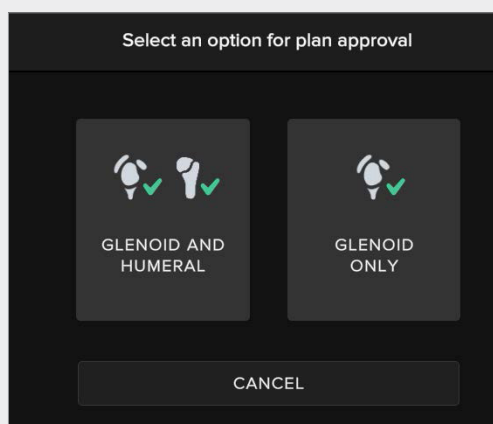

Figure 75. Plan Approval tab
- Clicking the “Approve” button opens a tab (Figure 75) in which surgeons may select to approve both the glenoid and humeral plan(s) or just the glenoid plan(s).